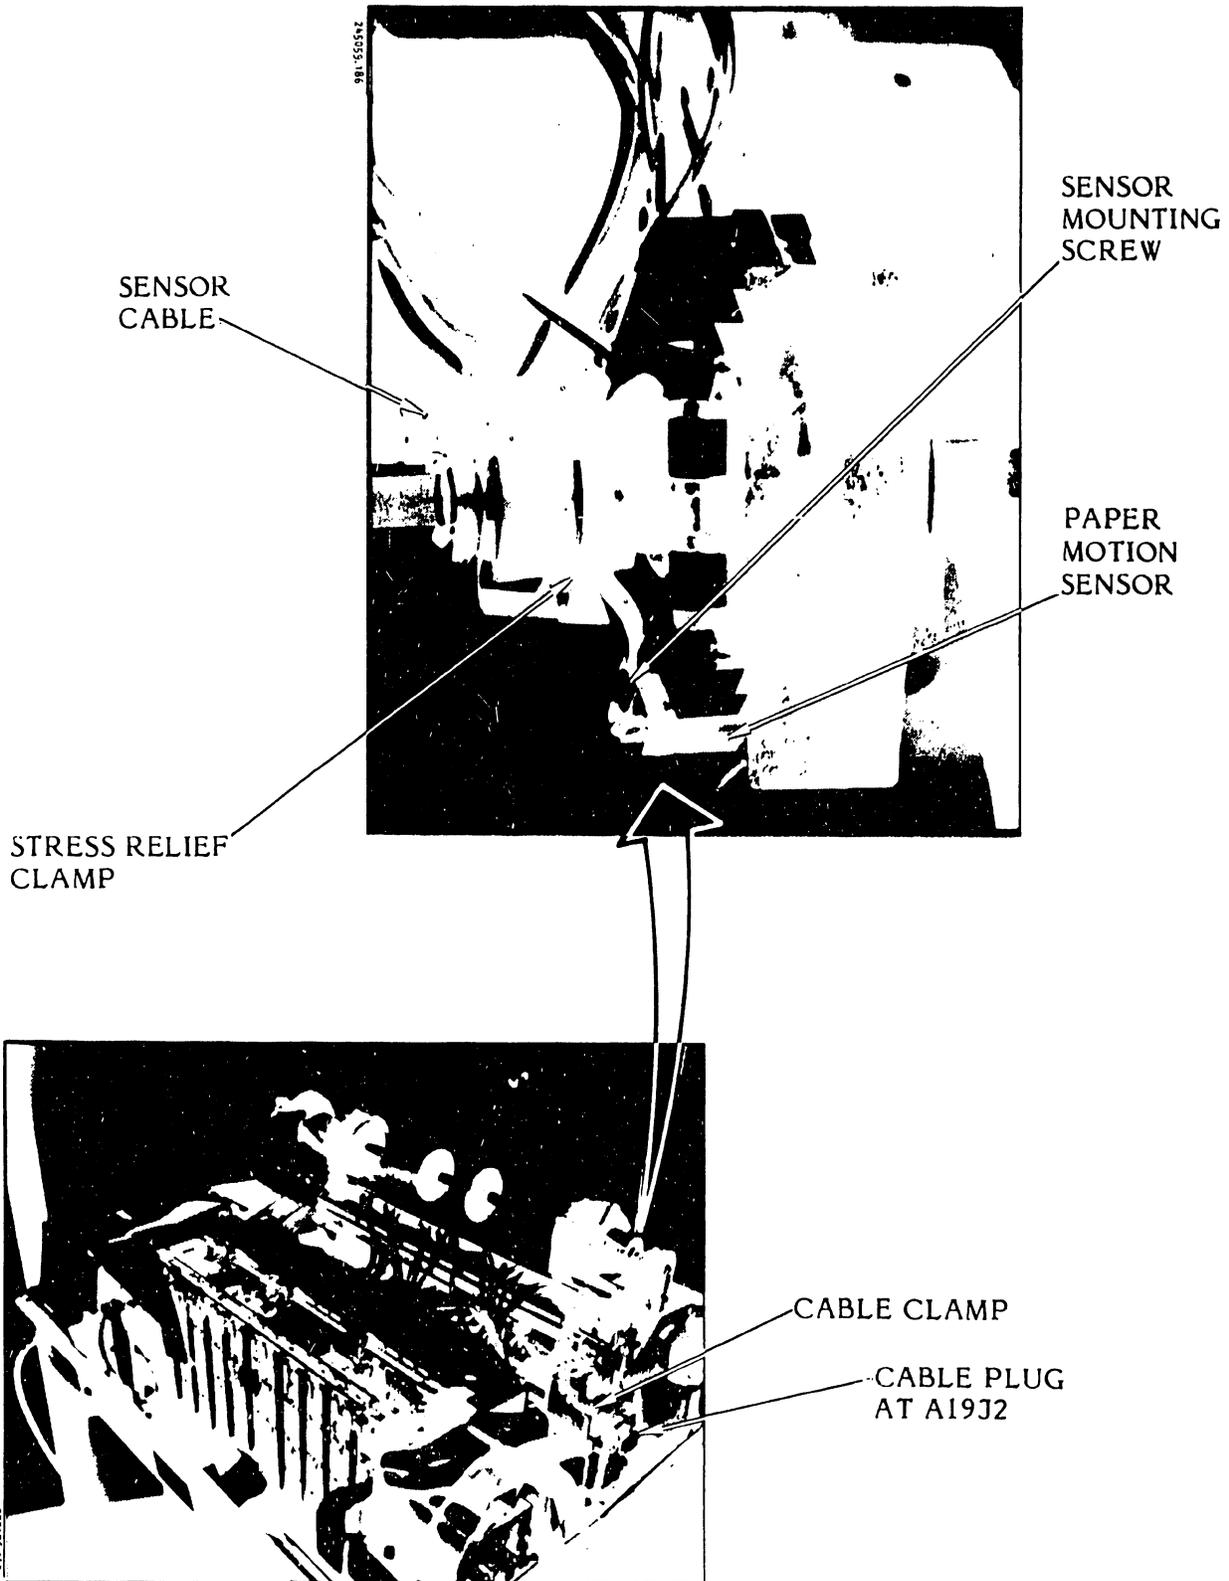

Figure 3-119. Paper Motion Sensor Assembly Removal/Installation
#### 3.7.48 Paper Motion Sensor Assembly Removal/Installation (Figure 3-119)
- d. Unplug the paper motion sensor cable from the Interlock Transition CCA at A19J2 (see figure 3-119).
- g. Use a 4.5 mm nut driver to remove the stress relief clamp screw and sensor mounting screw (see figure 3-119).